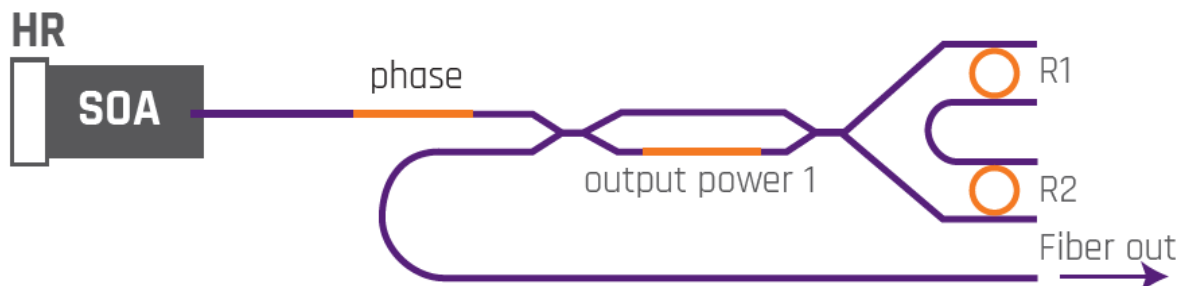

Figure 1 Schematic layout of the laser
The main concept of the laser is shown in Figure 1. The gain chip, which contains the SOA, has a high-reflective (HR) coating on the left-hand side and an anti-reflective interface on the right-hand side where it is connected to a TriPleX™ silicon nitride waveguide chip. The waveguide circuit contains two micro-ring resonators (MRRs), indicated as R1 and R2 with slightly different free-spectral ranges (FSRs) to ensure stable single frequency operation by using the Vernier effect. There are four heaters positioned, one to control the phase of the light in the cavity, two to control the resonant wavelengths of the ring resonators R1 and R2, and one controls the fraction of the optical power coupled out of the cavity. The laser's frequency can be tuned over a large range by tuning the MRRs.